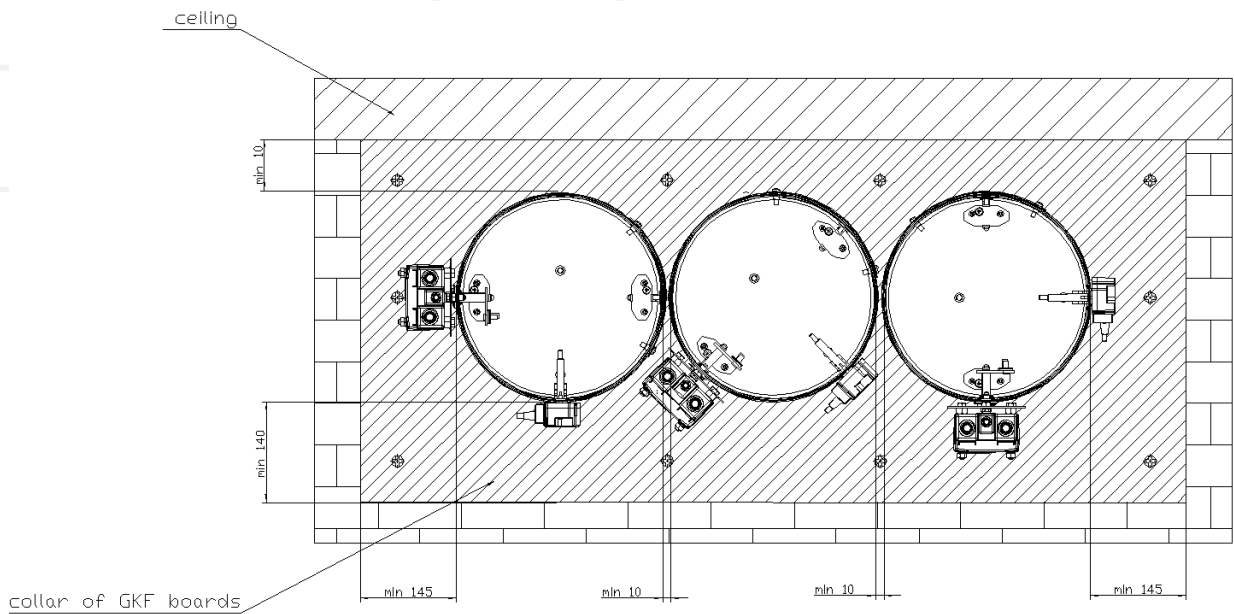

Figure 22. Installation method of KTM-O with minimum distances from adjacent fire dampers and from the ceiling.
- Install using screws, on the actuator side a collar made of GKF boards 15 mm thick with the resulting dimensions (Fig. 22, 24, 26, 28) depending on the number of fire dampers and the distance from the ceiling and/or wall (with the opening for the fire dampers. For simple assembly, the frame can be made of two parts.